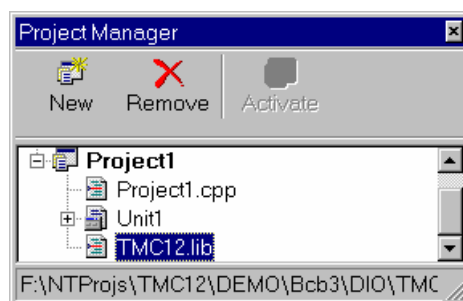

Figure 2-5-5. Check if the library has been added into this project.
Step 8: Check the Project Manager to see if the library has been added into this project. Refer to Figure 2-5-5.